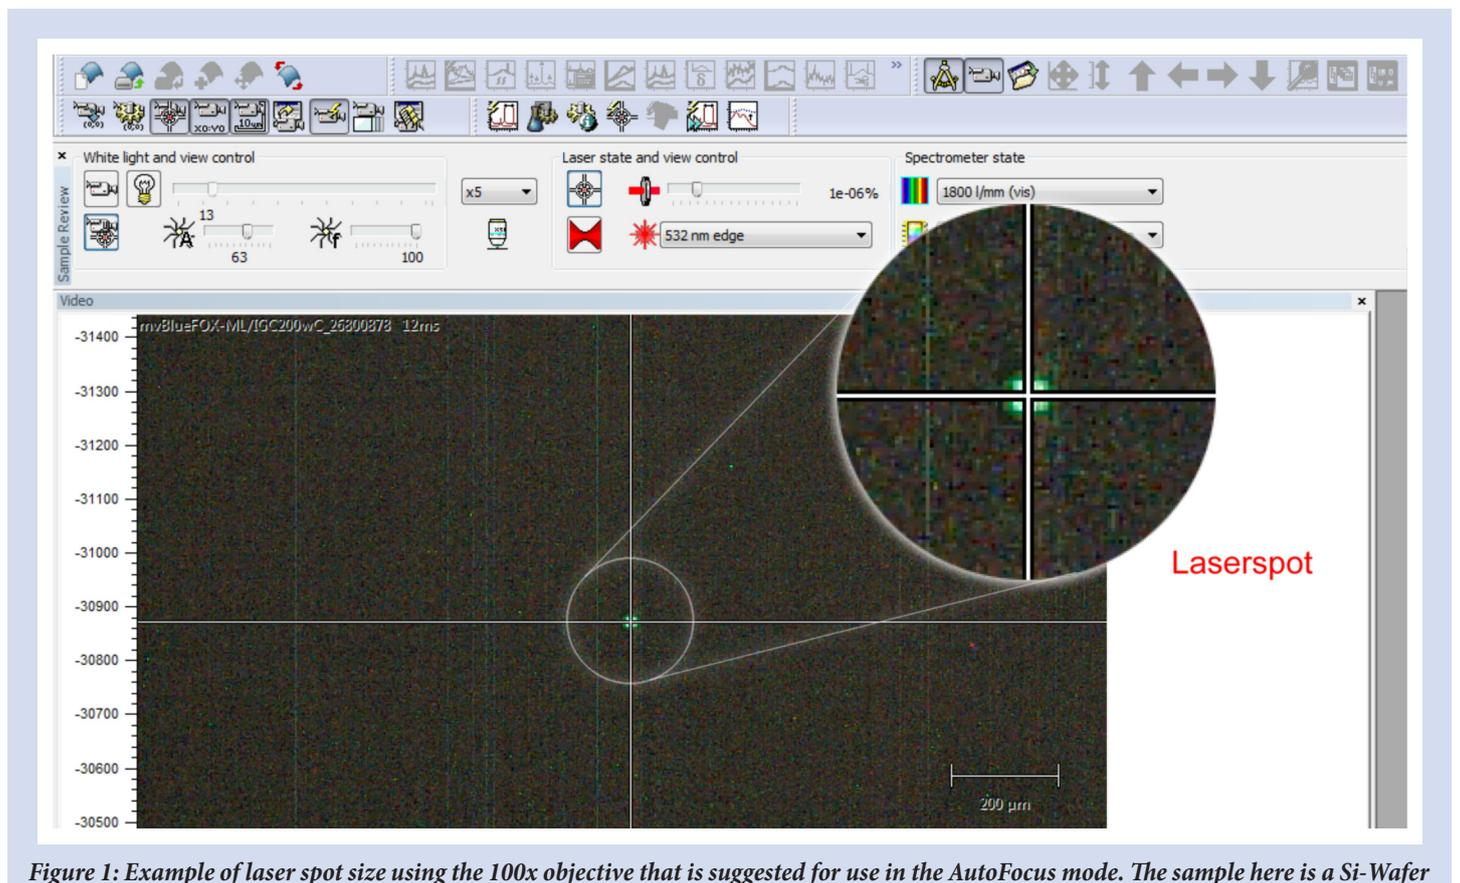
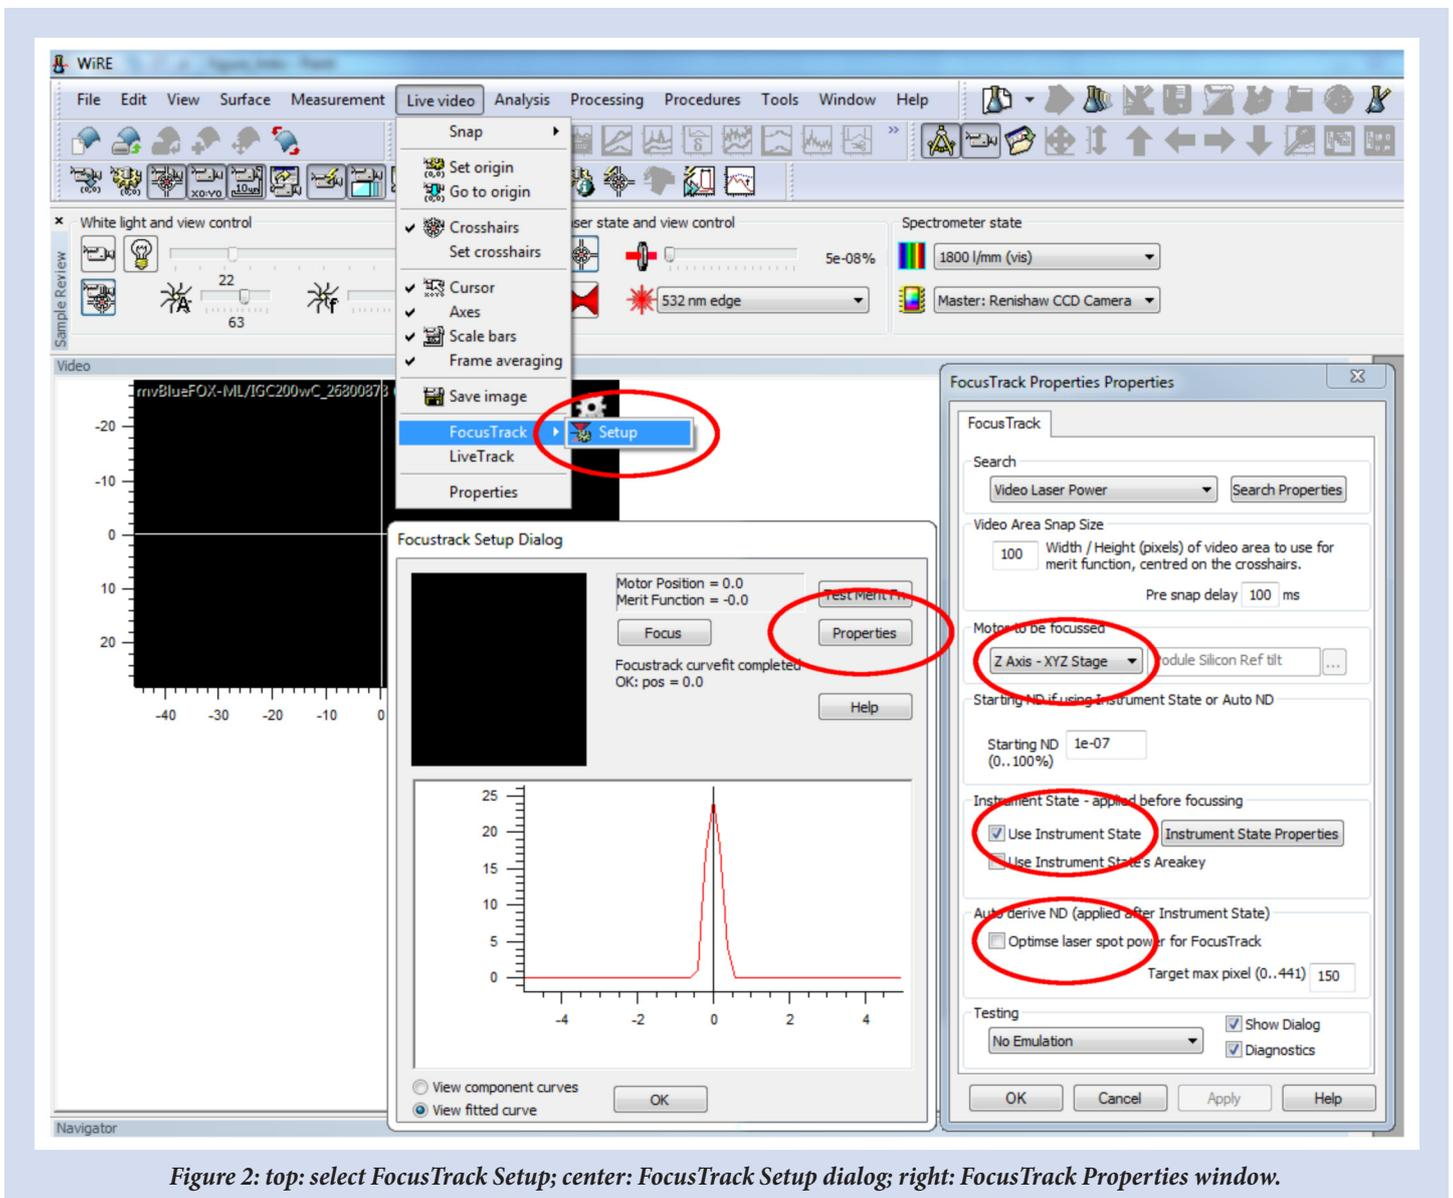

Figure 1: Example of laser spot size using the 100x objective that is suggested for use in the AutoFocus mode. The sample here is a Si-Wafer
Figure 2: top: select FocusTrack Setup; center: FocusTrack Setup dialog; right: FocusTrack Properties window.
3. The laser power for the drift correction should be chosen to be low, that no Pixel of the camera is saturated. To find this value on a given surface turn off the illumination lamp while the sample is in focus, start at around „1e-07%“ laser power (see **Starting ND** in the **FocusTrack Properties** window in Figure 2 right), and increase it stepwise until you see a small laser spot in the video image, as shown in Figure 1.
4. Select **Live video** > **FocusTrack** > **Setup**, see Figure 2 top.
5. Click on **Properties** in the newly opened window, see Figure 2 center.
6. A new dialog window will open. Adjust the setting to match the ones shown on the right of Figure 2 and then click on **Search Properties**.
9. Close the FocusTrack Instrument State Parameters Properties windows and start a test run by clicking on **Focus**, see Figure 2 center.